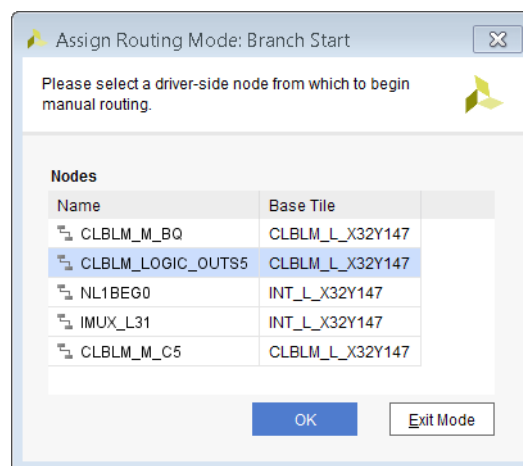

Figure 3-22: Branch Start
5. Click **OK**. The Branch Start window (shown in Figure 3-22) opens.